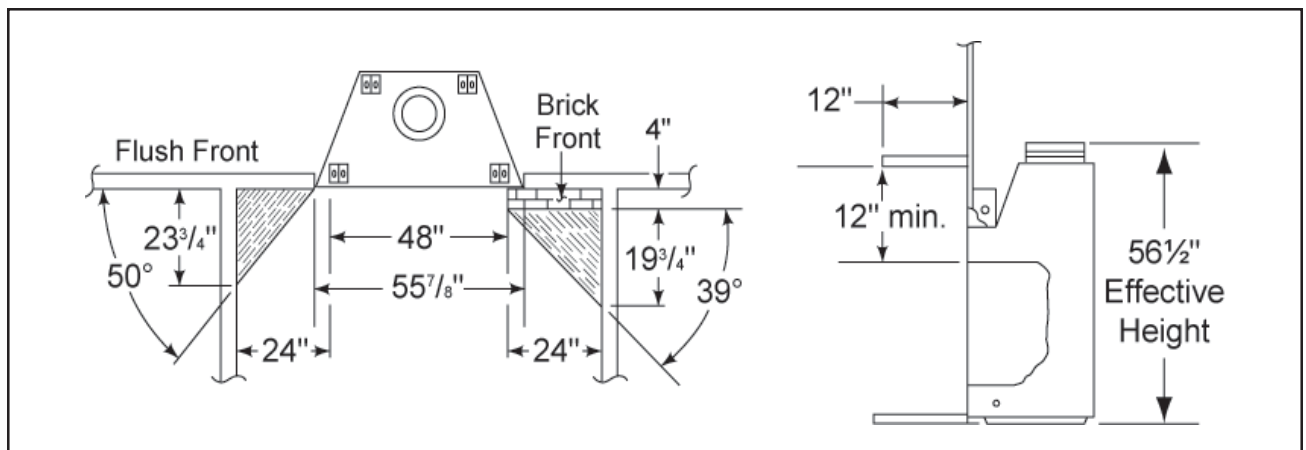

Figure 6 - Sidewalls and Surrounds
Adjacent combustible side walls must be located a minimum of 24" from the fireplace opening. See Figure 6. If you are using a decorative surround constructed of combustible material, it must be located within the shaded area defined in Figure 6. Short stub walls are also acceptable if they are contained within the shaded area.
- The effective height of the fireplace assembly is measured from the base of fireplace to the top of the starter collar. See Figure 6.